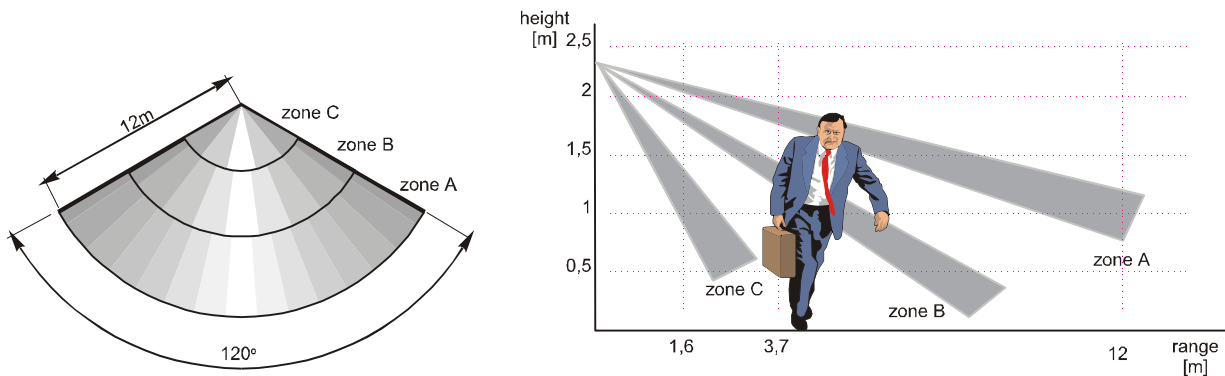

fig. 11
By using the provided bracket, the JA-60P detector can be installed on the wall or in a corner. The recommended installation height is from 2 to 2.5 meters above the floor. The detector's coverage area is up to 12 meters and it has a detection angle of 120° (see fig. 11). Do not place the detector close to any heating/cooling vents or near any other object that often changes temperature. The JA-60P should not be placed near any item that generates a strong electromagnetic signal (transmitters, electronic regulators etc.). Avoid locations that have intense air circulation.
- Confirm that the detector covers the protected area as you expected (see diagram in fig. 11). If you need another coverage pattern (long corridor, pet zone), you can get an optional detector lens from your distributor.